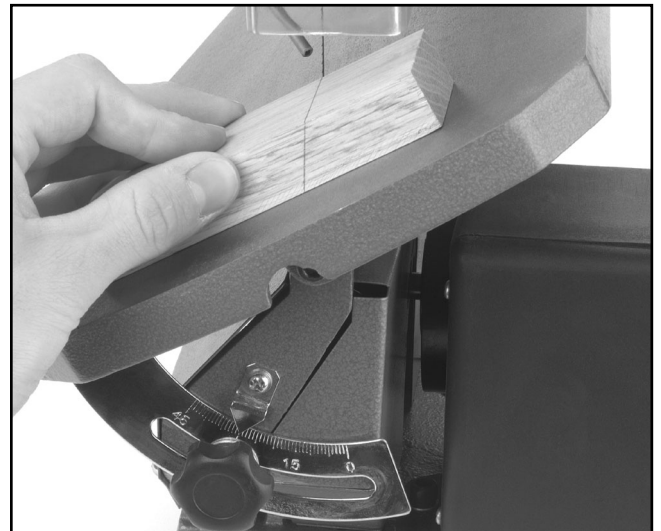

Figure 14. Making a bevel cut.
3. Using the same principles as in the previous sections, feed the work slowly and evenly into the blade, remembering not to force the workpiece (**Figure 14**).